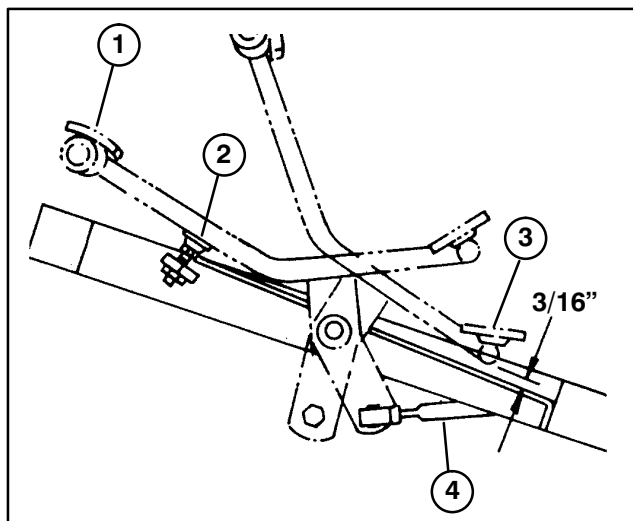

Figure 50
ADJUSTING TRACTION PEDAL (Fig. 50)
2. Check distance between bottom of pedal and footrest as shown in Fig. 50. Distance should be approximately 3/16". If distance is greater or less than 3/16" dimension, an adjustment to the traction control rod is required.